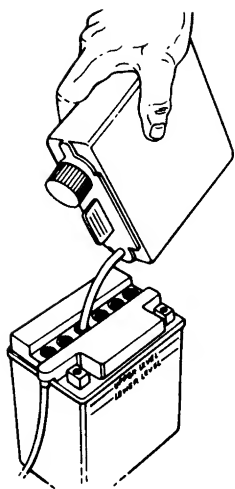

FIGURE 11.
6. Fill each battery cell slowly and carefully to the UPPER LEVEL line marked on battery. See figure 11. Use caution as the acid level will rise rapidly after the bottom of the cell is filled.